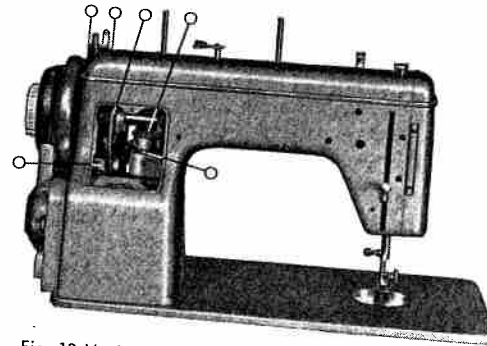

Fig. 13 Machine Head with removed Arm Cover Plate
2. The Arm (Fig. 13). Lubricate all points marked thus 0.